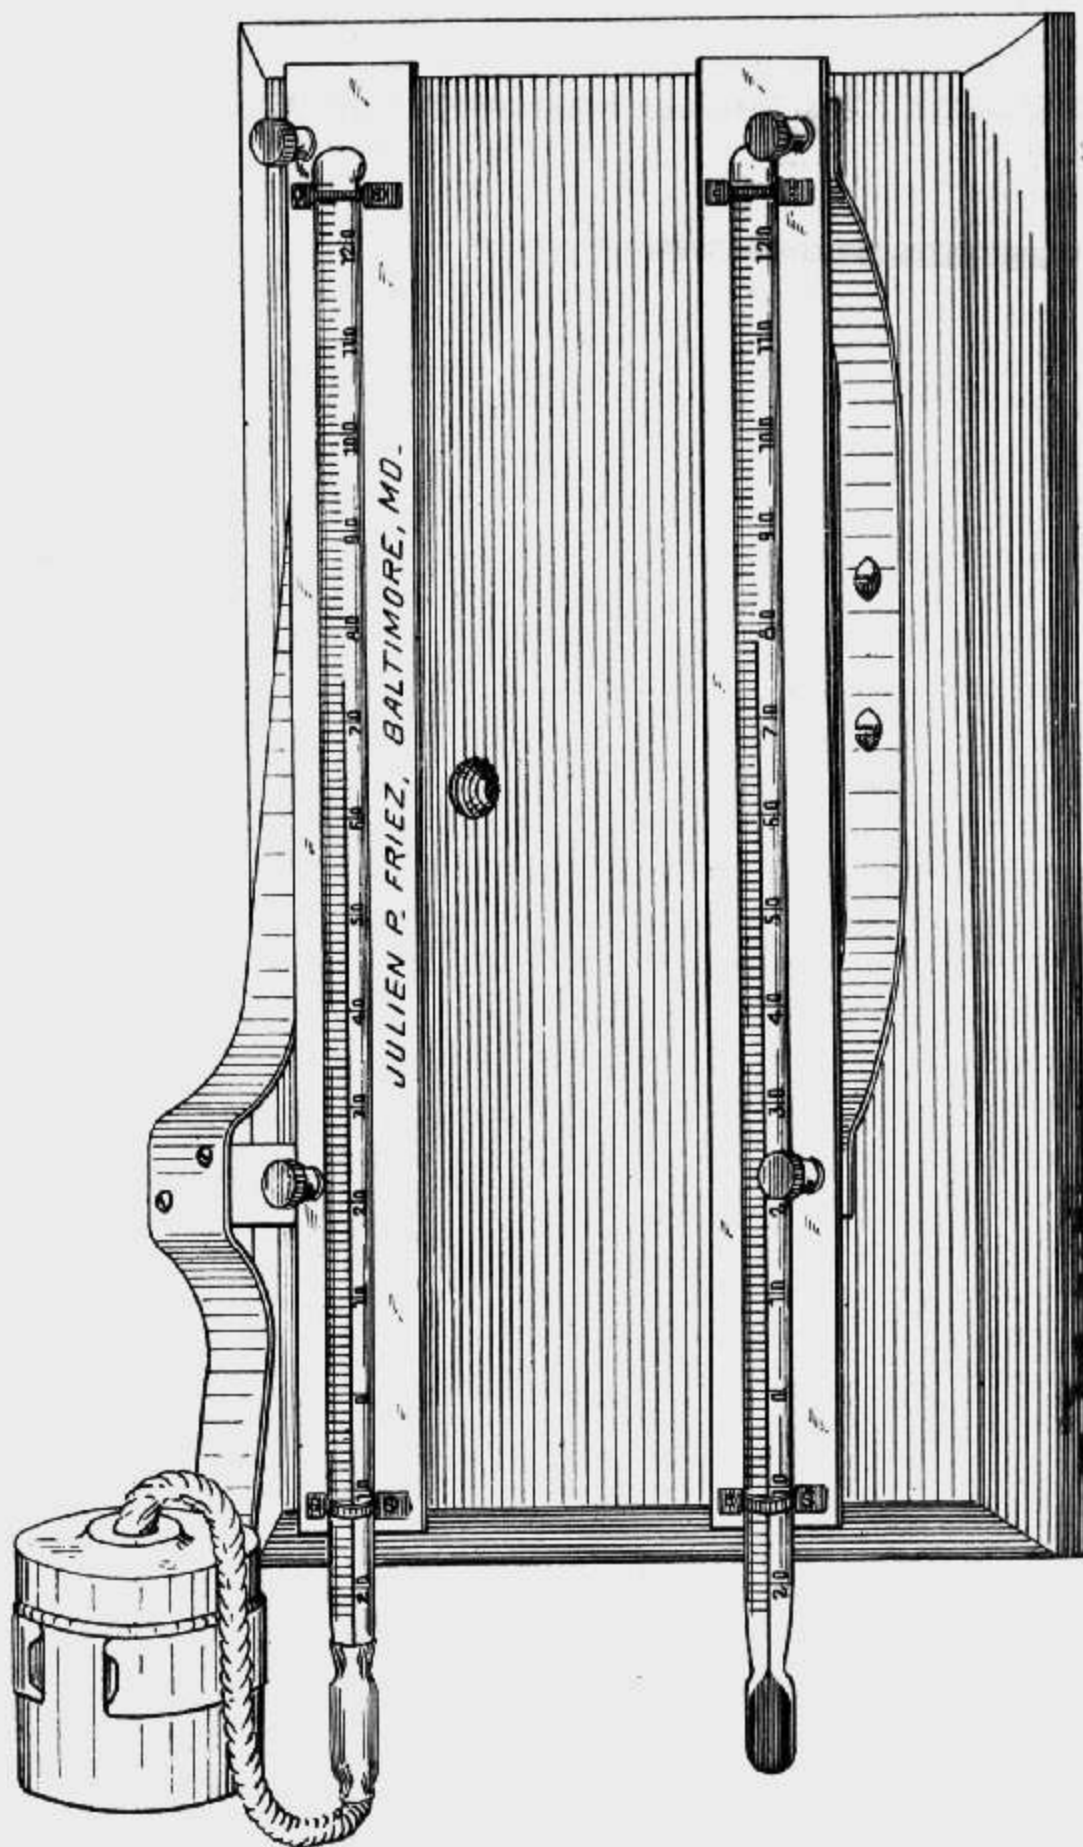

Fig. 18.
- Hygrometer, Weather Bureau Pattern, Fig. 18, consisting of two (2)